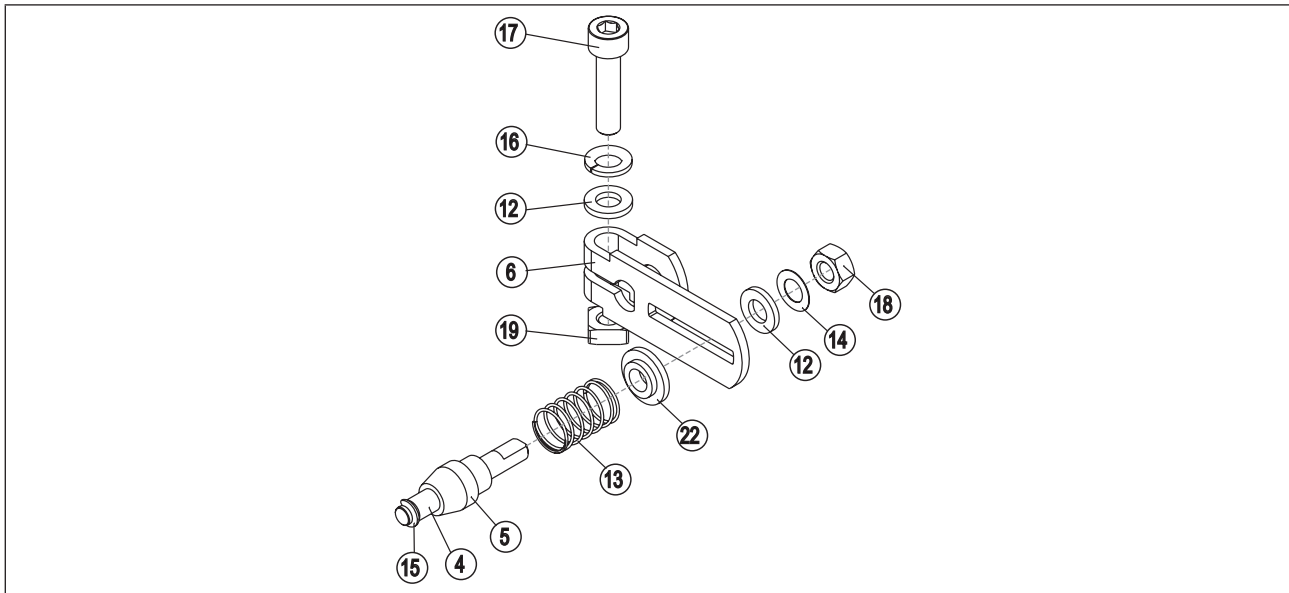

Figure 22: Assembling the lever
- Assemble lever (if not pre-assembled) “Figure 22”.